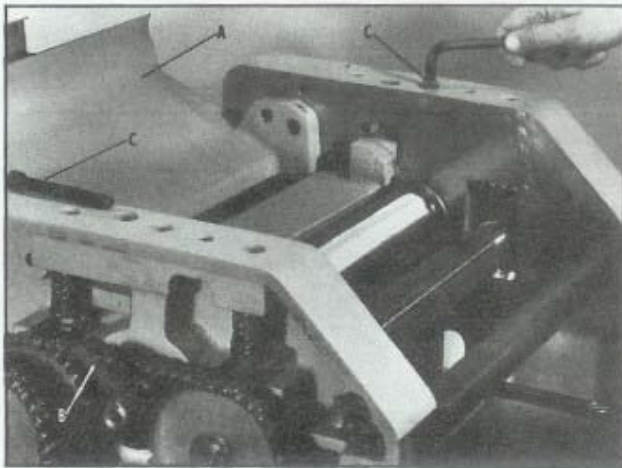

Fig. 26.
3. Remove the cutterhead guard safety screw and swing the cutterhead guard (A) Fig. 26, out of the way.
5. Remove cutterhead belt (B) Fig. 26, from the cutterhead pulley.
6. Remove the two socket head screws (C) Fig. 26, which hold the bearing housings.